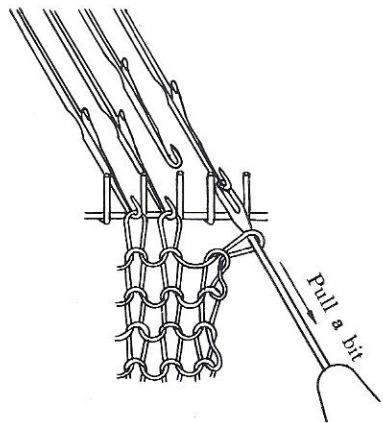
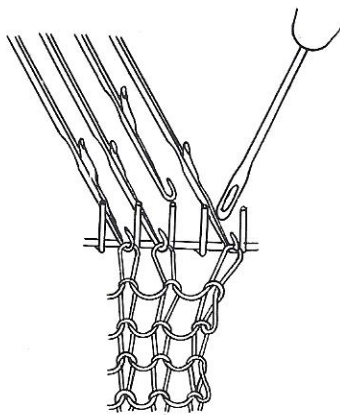

Fig. 13
Fig. 14
3. Then turn the loop toward the next Latch Needle like Fig. 13, hang the head of the Latch Needle by the Removers eye, and pull out a little the Latch Needle. Turn the Remover toward the Latch Needle like Fig. 14 and remove the loop.